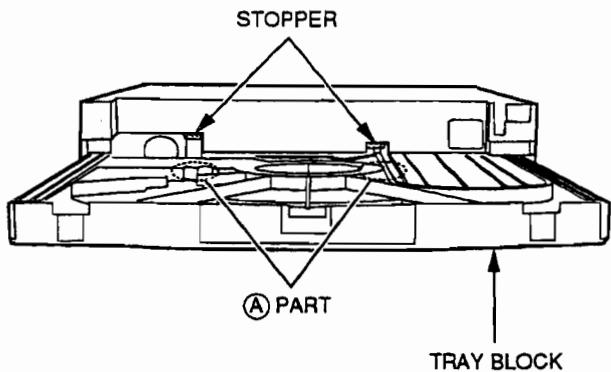

Fig. 3-10
- 2) In order to disengage the two stoppers, carefully press the **(A)** part of the TRAY BLOCK downwards while pulling the TRAY BLOCK out as shown in Fig. 3-10.